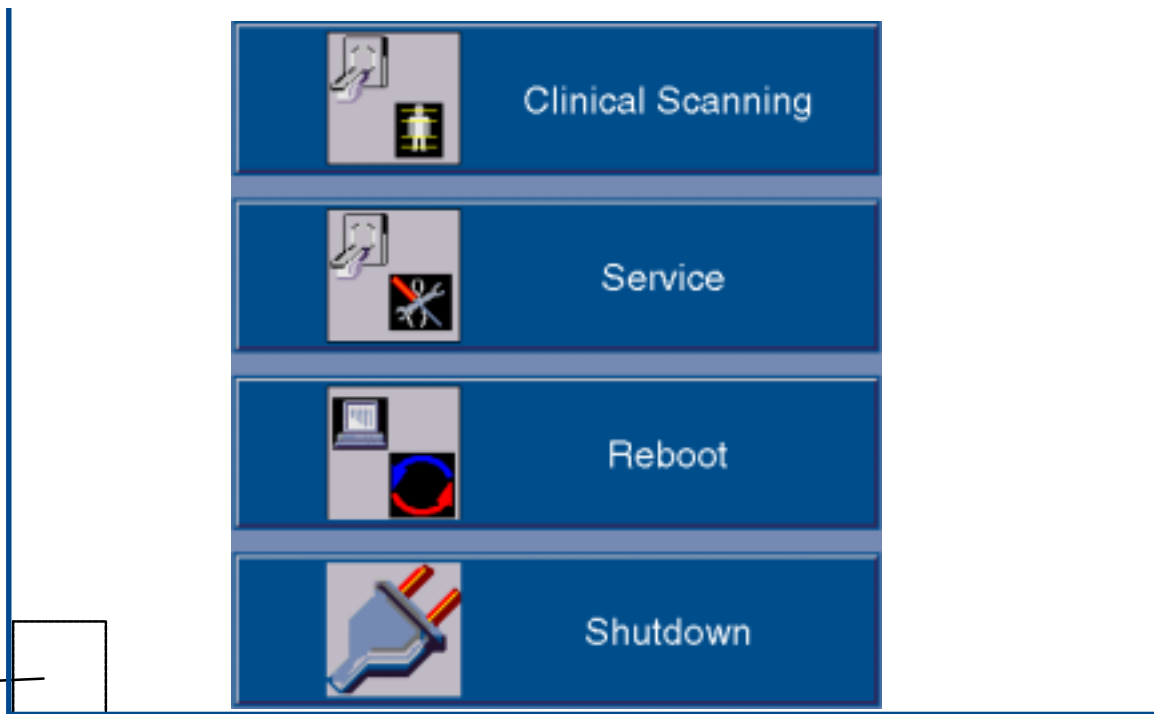
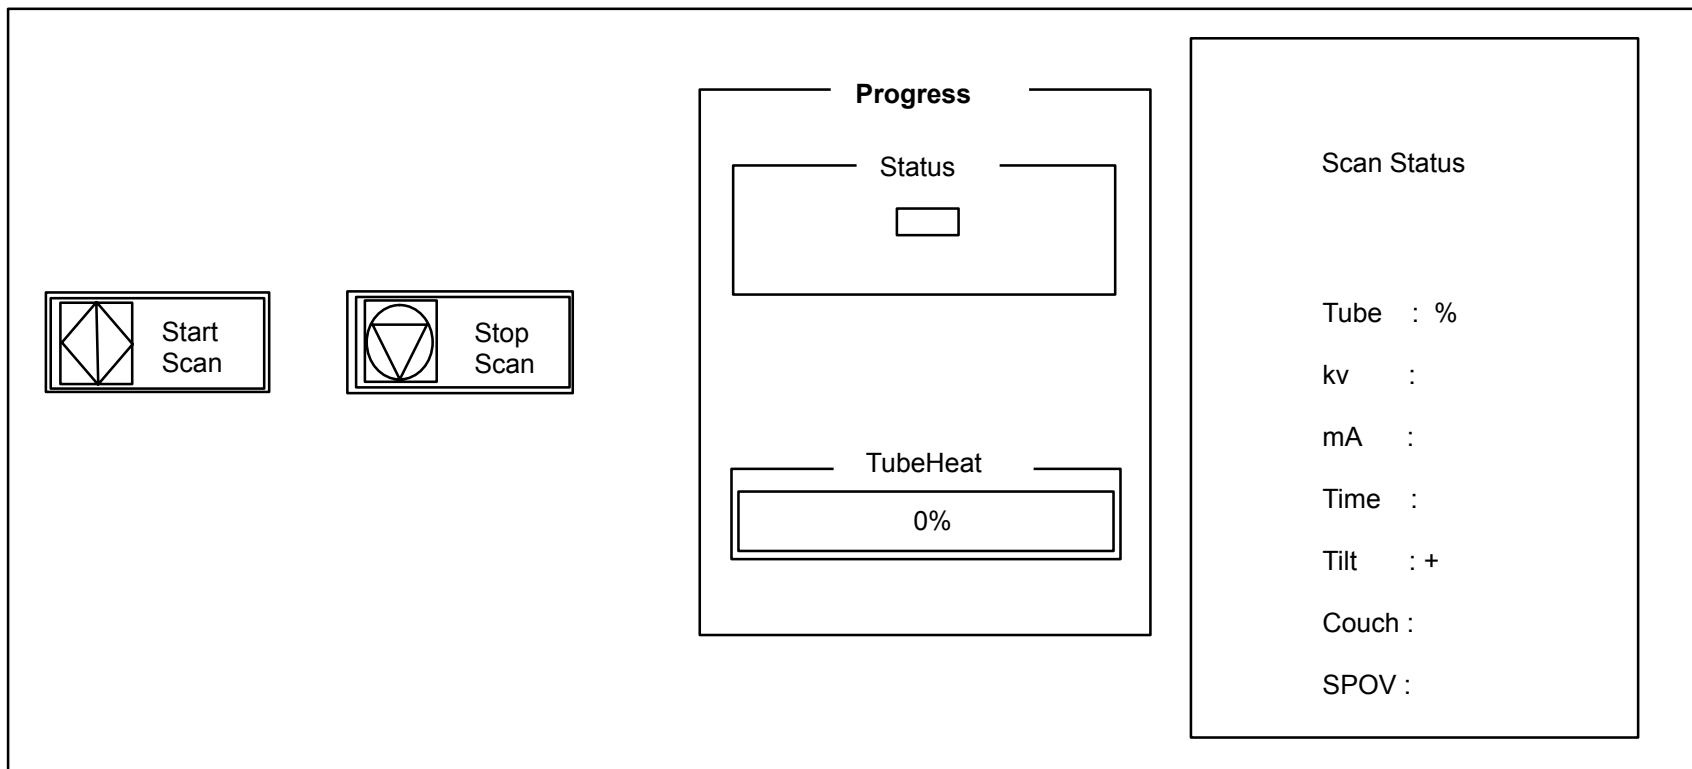

FIGURE 349 4 BUTTON SCREEN
FIGURE 350 TUBE WARM-UP STATUS WINDOW
1. Make sure the Gantry keyswitch is in the normal position. Turn the Display Tower keyswitch to the **ON** position. After the system boots, you will be prompted with the startup application display (or “4 Button Screen.”) You have **4 boot options**. Refer to Figure 349.:
3. To perform a tube warm-up, click on the Tube Warm Up button with the mouse pointer. Refer to Figure 349. This will initiate the warm-up sequence and **X-RAYS WILL BE EMITTED**. The tube warm-up status is displayed in the Tube Warmup Window. Refer to Figure 350.
1. From the 4 Button Screen (Figure 349) click on SHUTDOWN with the mouse pointer.